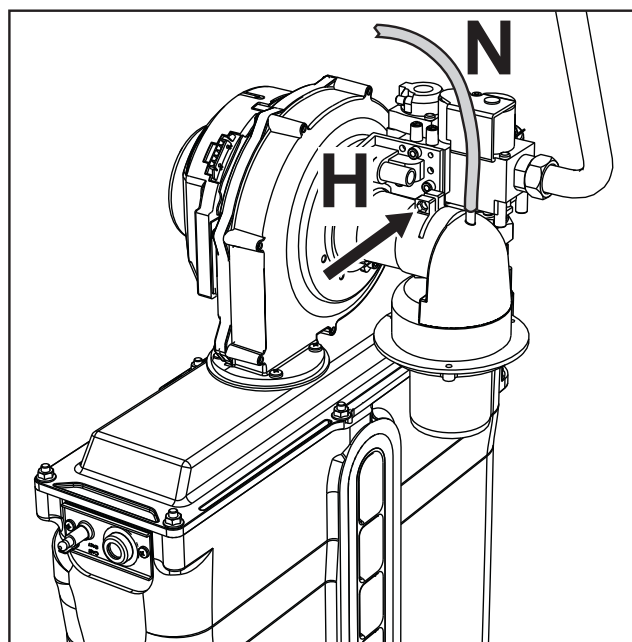

fig. 79
3. Remove the compensation tube “N” and loosen the screw “H” (see fig. 79).